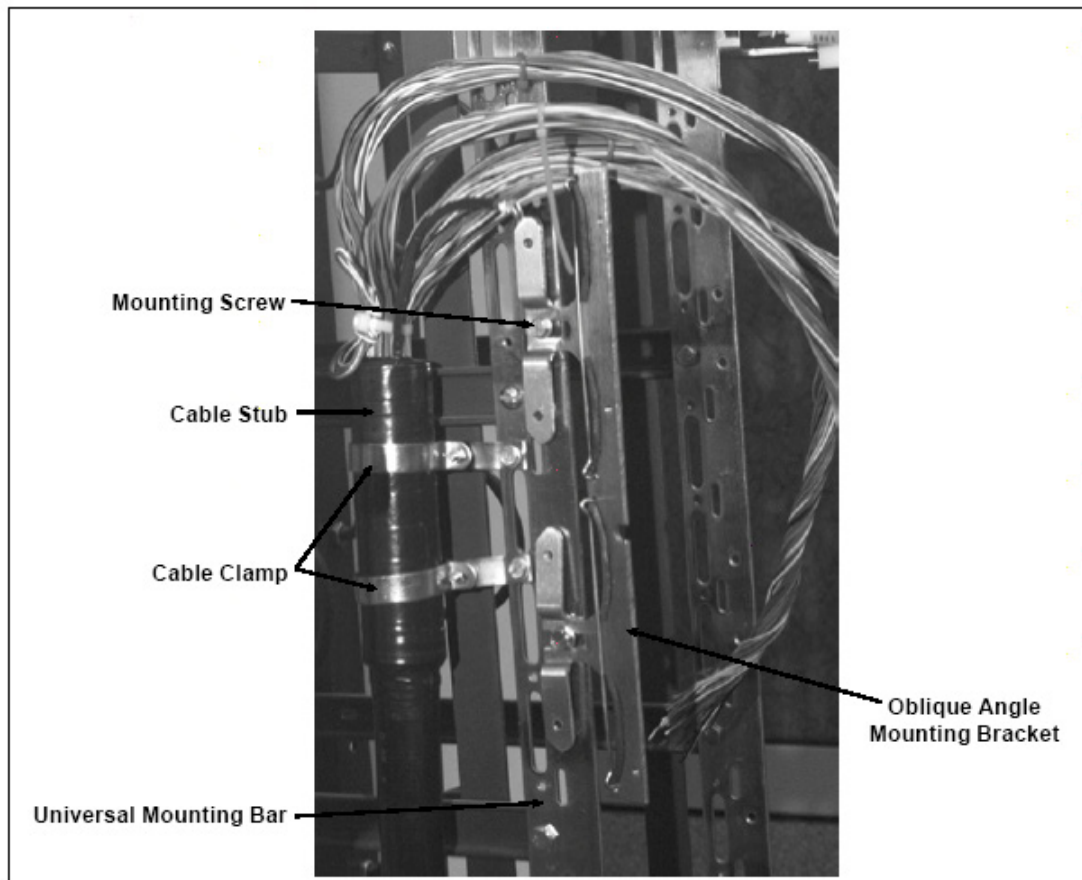
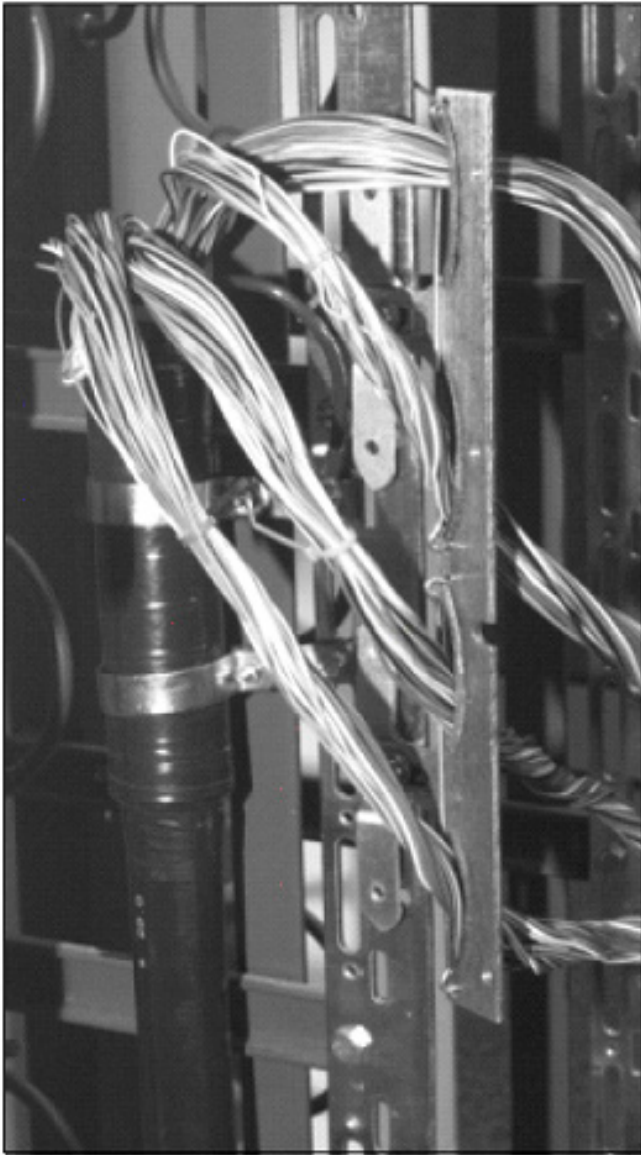

Figure 10 — Cable Clamp Mounting for Stubless Connectors
Figure 11 — Oblique Angle Mounting Bar Installation
- 8.5 Mount cable clamps on universal connector mounting bar (Figure 10). Mount in the proper position for installation of the C-377 connector. Use the screws removed earlier in 8.4.
8.6 Install cable stub in cable clamps (Figure 10). Obtain desired cable stub, place through appropriate riser hole beneath desired distributing frame vertical, and mount in cable clamps. Mark cable number and pair count on cable stub. Attach shield ground wire under top cable clamp screw (Figure 11). If multi-hundred sheathed cable is stubbed and formed, run shield ground to bus bar. Cable may also be moisture sealed at the sheath butt point. Use locally approved practice for grounding and moisture sealing.
8.7 Mount oblique angle mounting bracket to universal connector mounting bar. Using the two 1/4x20 hex head mounting screws (supplied), install oblique angle mounting bracket as described for the stubbed connector (Section 7.3), but place it in the oblique angle position (Figure 10).
8.8 Separate binder groups. Identify the four 25-pair binder groups of the cable stud, and feed them through the four large fanning holes between the wire retaining brackets and the edge of the oblique mounting bracket (Figure 11).